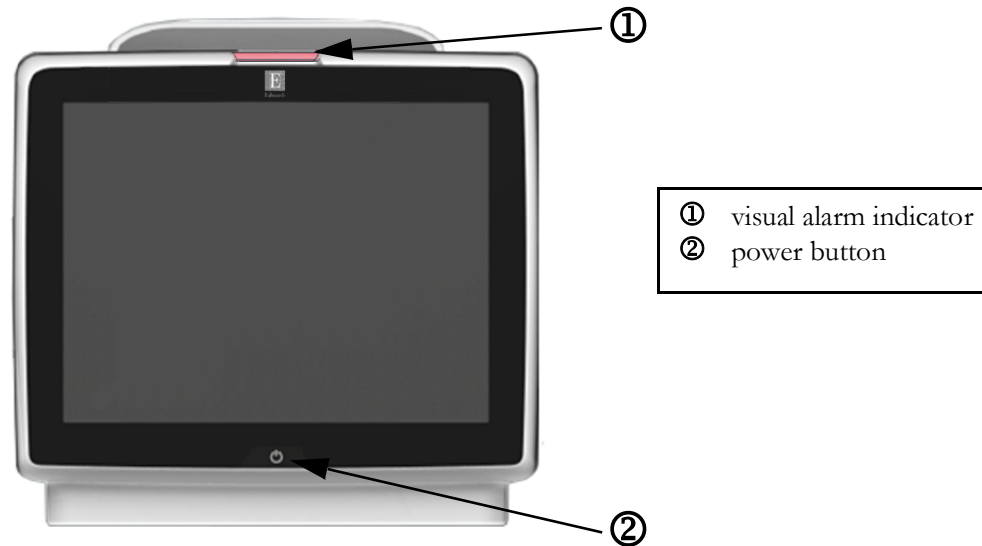

Figure 3-1 HemoSphere advanced monitor front view
To power the monitor off, touch the power button. See ② in Figure 3-1 on page 66. The following options will be displayed: